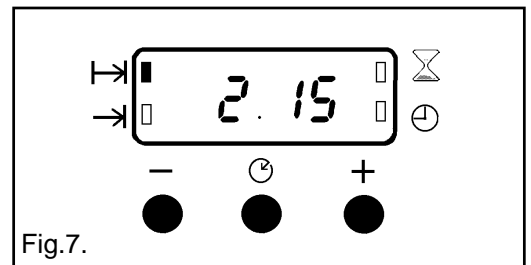

Fig.7.
- iii) To set the length of cooking time, press the Selector control button (⌚) until the 'Cook Time' indicator neon is illuminated (⌚). Press the increase control (+) until the required length of cooking time is displayed, e.g. 2 hrs 15 mins as Fig. 7. If necessary depress the decrease control (-) until the correct time interval is achieved.